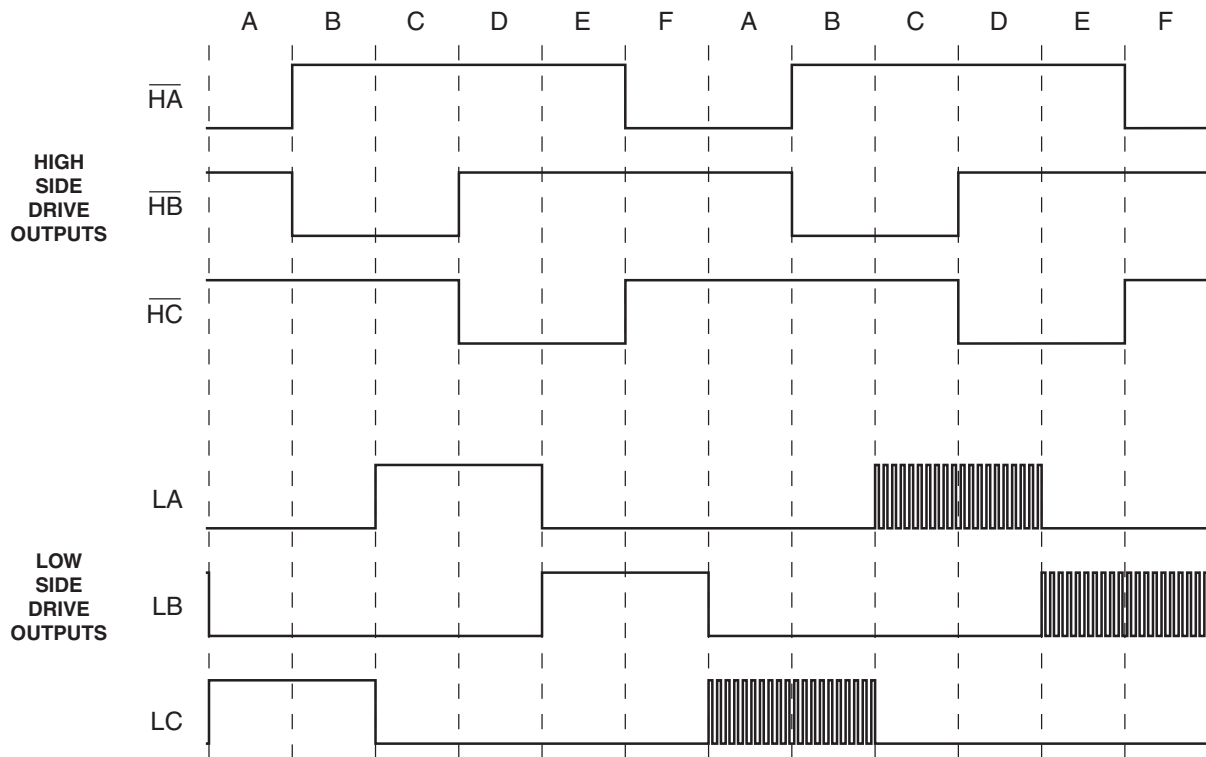

Figure 4. Output Commutation Sequence Timing Diagram
- For explanation of states, see Figure 4 and Table 1.
A 3-phase BLDC motor requires electronic commutation to achieve rotational motion. Electronic commutation requires the switching on and off of the power switches of a 3-phase half bridge. For torque production to be achieved in one direction, the commutation is dictated by the rotor position. Electronic commutation in the ML4425 is achieved by turning on and off, in the proper sequence, one N output from one phase and one P output from another phase. There are six combinations of N and P outputs (six switching states) that constitute a full commutation cycle. These combinations are illustrated in Table 1 and Figure 4, and are labeled states A through F. This sequence is programmed into the commutation state machine. Clocking of the commutation state machine is provided by a voltage controlled oscillator (VCO).